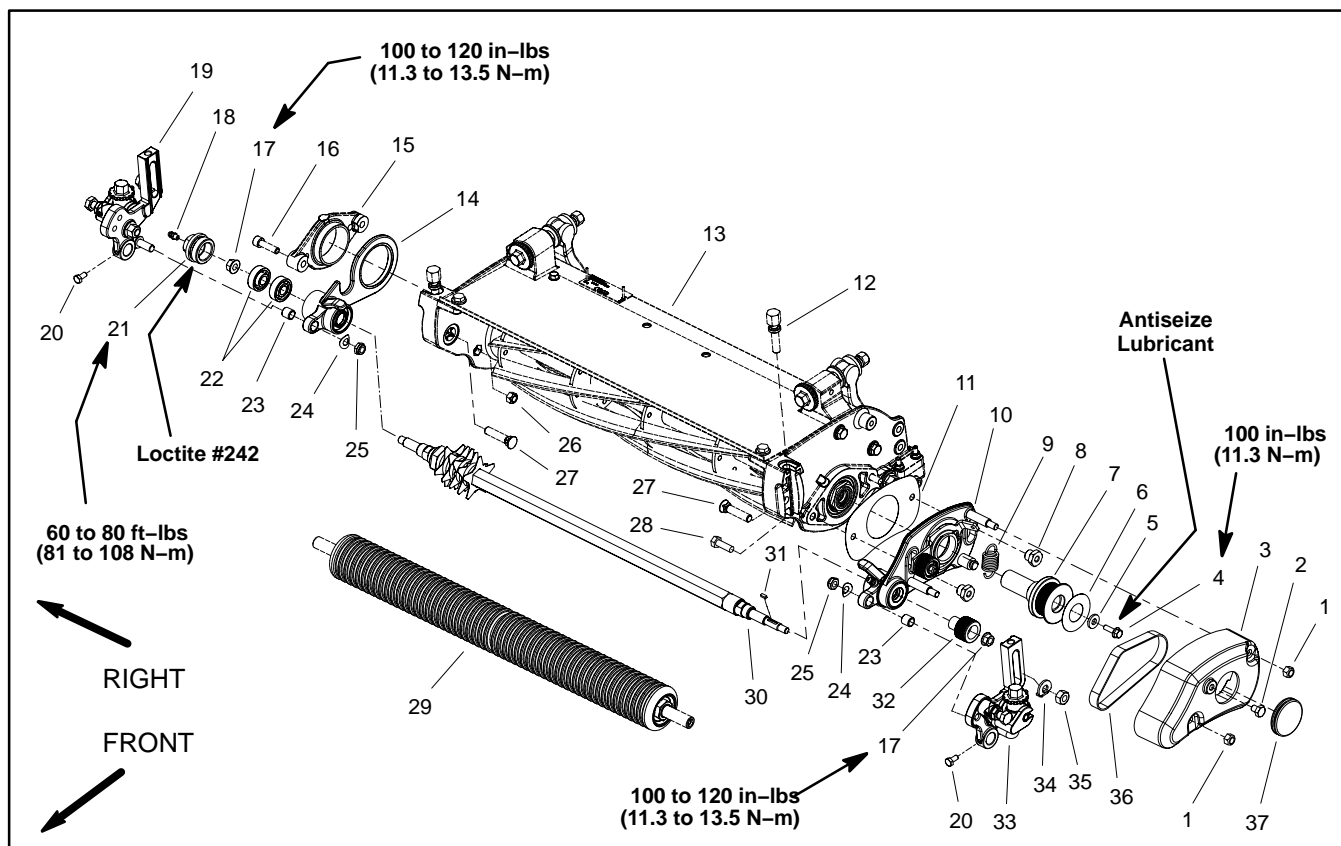

Figure 6
**Note:** The groomer reel drive is located on the opposite side of the cutting unit from the cutting reel hydraulic motor. Figure 6 shows the groomer reel drive on the left side of the cutting unit.